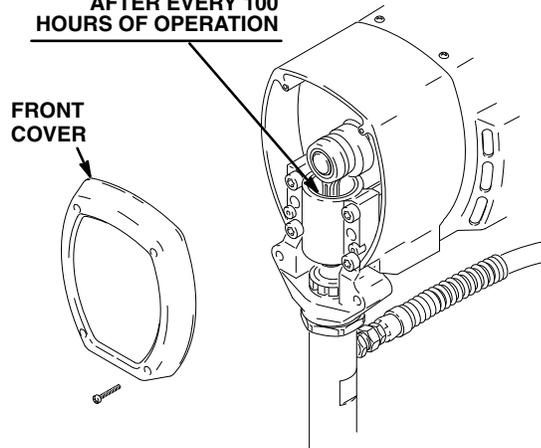

Fig. 8
3. **Lubricate the bearing housing** after every 100 hours of operation. First relieve pressure. Remove the front cover. Fill the bearing housing cavity with SAE 10 non-detergent oil. See Fig. 8.